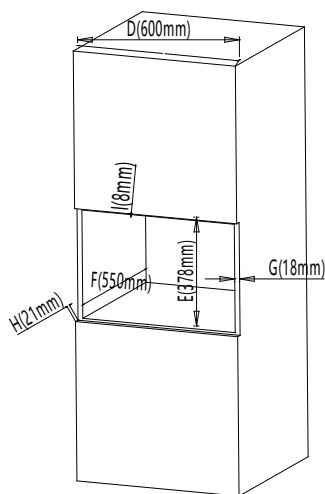

Fig. 7
Opening size: (W)600x(H)378x(D)550(mm) as shown in Fig.7 "D", "E", "F".